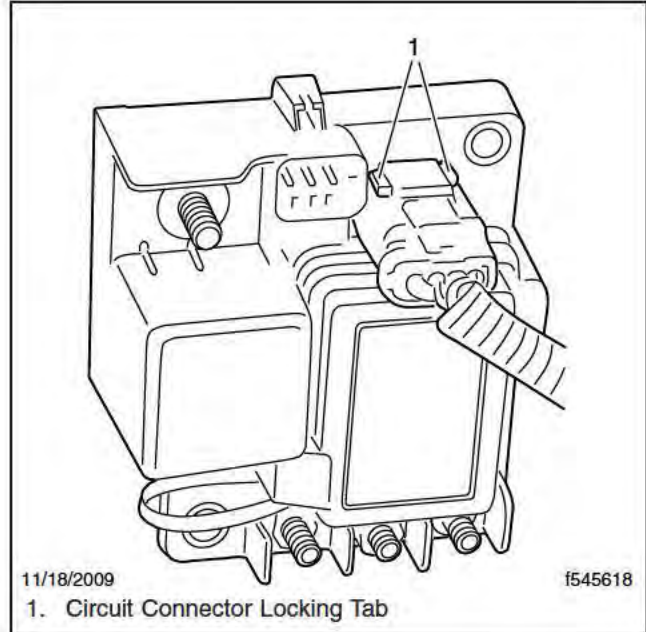

Fig. 2, Removing the Circuit Connector
- 4.2 Press and release the tab, then remove the connector. See Fig. 2.